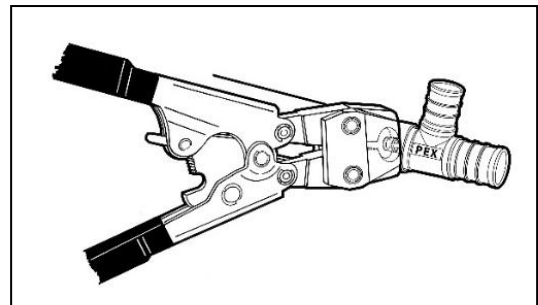

Fig. 4: Close clamp ear with tool
2. Close clamp ear with tool, tool will not release until clamp is fully closed. **(Fig. 4)**